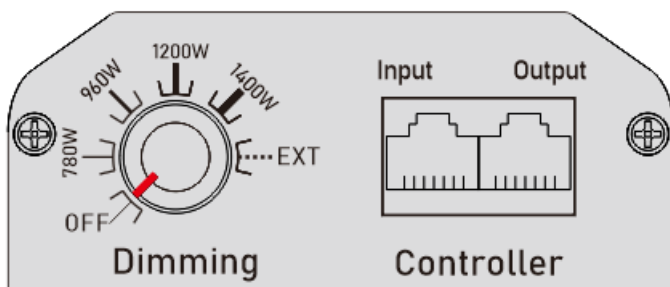

Fig. 10
- ✓ 780W / 960W / 1200W / 1400W: Dimming level (@1400W , see Fig. 10).